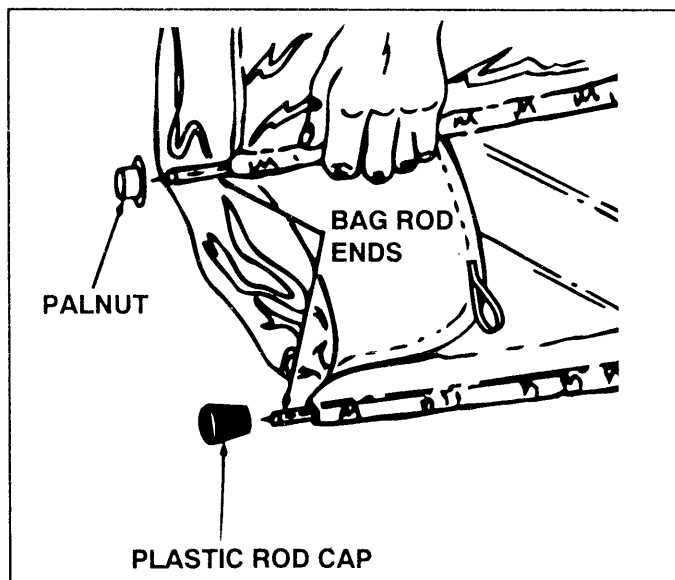

FIGURE 6
- Assemble the two plastic rod caps to the rod ends of the bottom bag rod. And two Palnuts to the ends of the top bag rod. See figure 6.